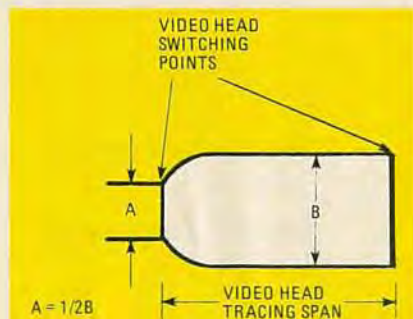

FIG. 23—ADJUST THE WAVEFORM so that the amplitude at A is equal to one half that at B. Note that only one period of the waveform is shown here for simplicity.
2. Play back an alignment tape (video portion) and observe the waveform (envelope) on the scope. Figures 23 and 24
6. Observe the waveform on the oscilloscope, and adjust screws A and B so that the amplitude at A is equal to one-half of the amplitude at B, as shown in Fig. 23. Note that A is measured at the video-head-switching point, and B is measured at 40% of the video-head-tracing span. Check that slack does not develop along screw A, screw B, or the lead section during those or any other adjustments.